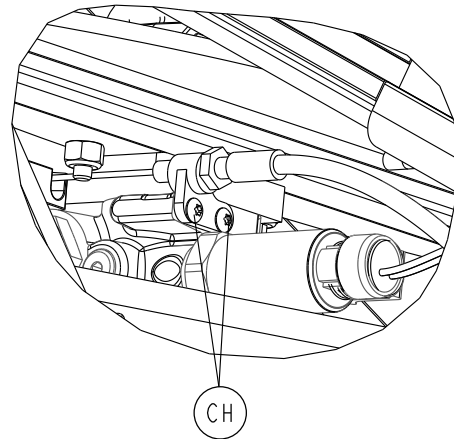

Figure 22 –
7. Using a T10 Torx driver, remove the two button head cap screws (CH) that secure the manual release cable bracket to the hydraulic assembly (Figure 22). Save the screws.